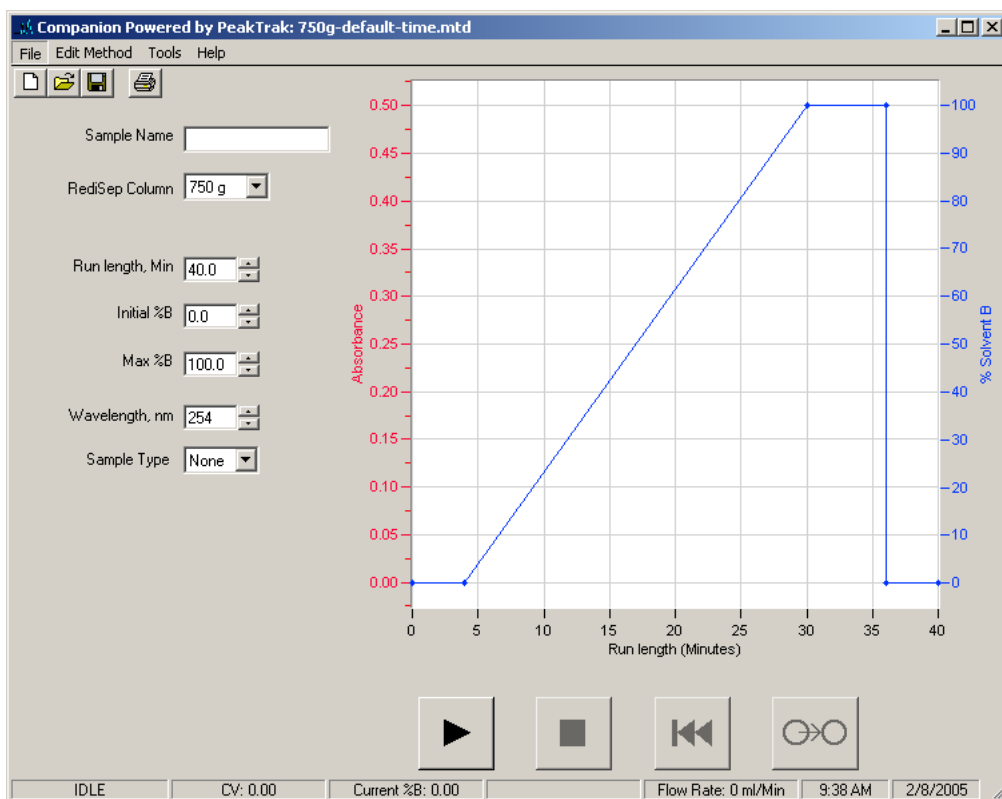

Figure 1-4 PeakTrak for Companion XL Systems (running on Microsoft® Windows®)
5. *(Windows PC and Companion XL system with touch panel display)* After loading, the browser screen is replaced by a PeakTrak window. The PeakTrak window will be similar to the one illustrated in Figure 1-4.